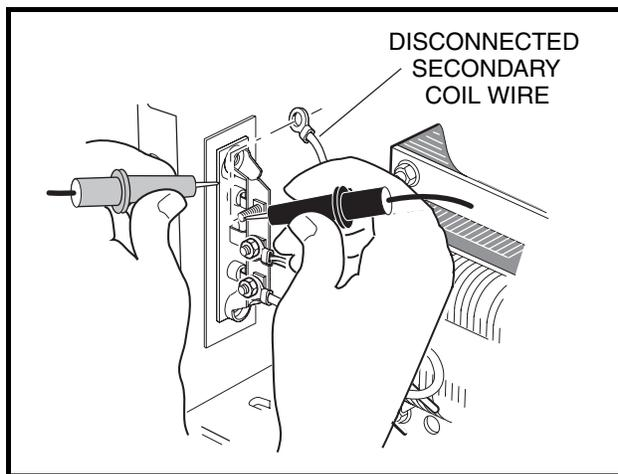

Figure 4-9 Diode Test
4. Disconnect one transformer secondary coil wire from the diode terminal (**Figure 4-9, Page 4-13**).
5. Using a low voltage continuity tester or multimeter set to the diode test function, connect the red (+) test probe to the diode mounting plate and the black (–) test probe to a diode terminal and note the reading (**Figure 4-9, Page 4-13**).